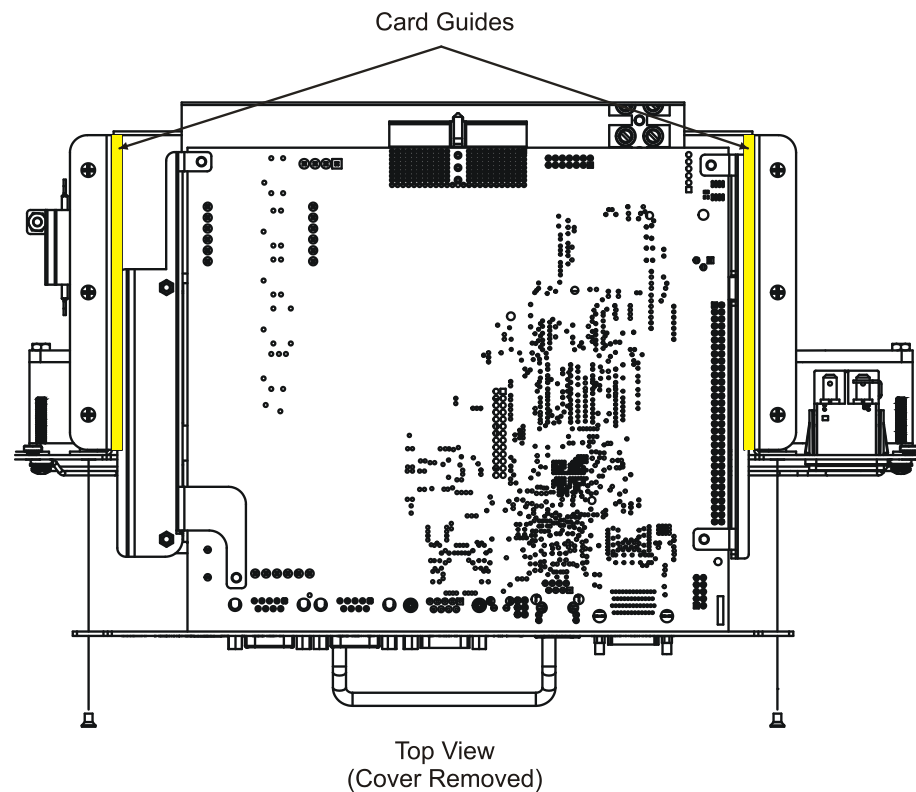

FIGURE 9-2: EX1267/68/69 DMM REMOVAL
- 1) Remove the two screws shown in Figure 9-2 using the #2 Phillips screwdriver. Retain these screws for re-installation.
- 1) Using the guides shown in Figure 9-2, slide the DMM into the mainframe unit the until DMM is supported by the card guides.
- 4) Install the three screws as shown in Figure 9-2 using a #2 Phillips screw driver.